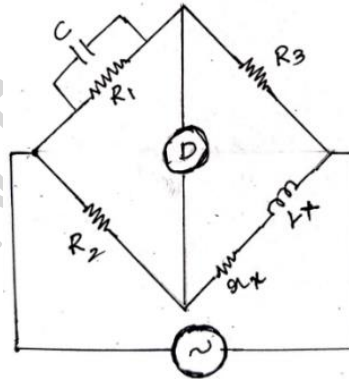

Fig 1a
- b) A Maxwell's bridge is used to measure an inductive impedance Fig 1a. The bridge constants at balance are $R_1=470k\Omega$, $C_1=0.01\mu F$, $R_2=5.1k\Omega$, $R_3=100k\Omega$. Write the balance equation and Determine the series equivalent of unknown impedance. **07**